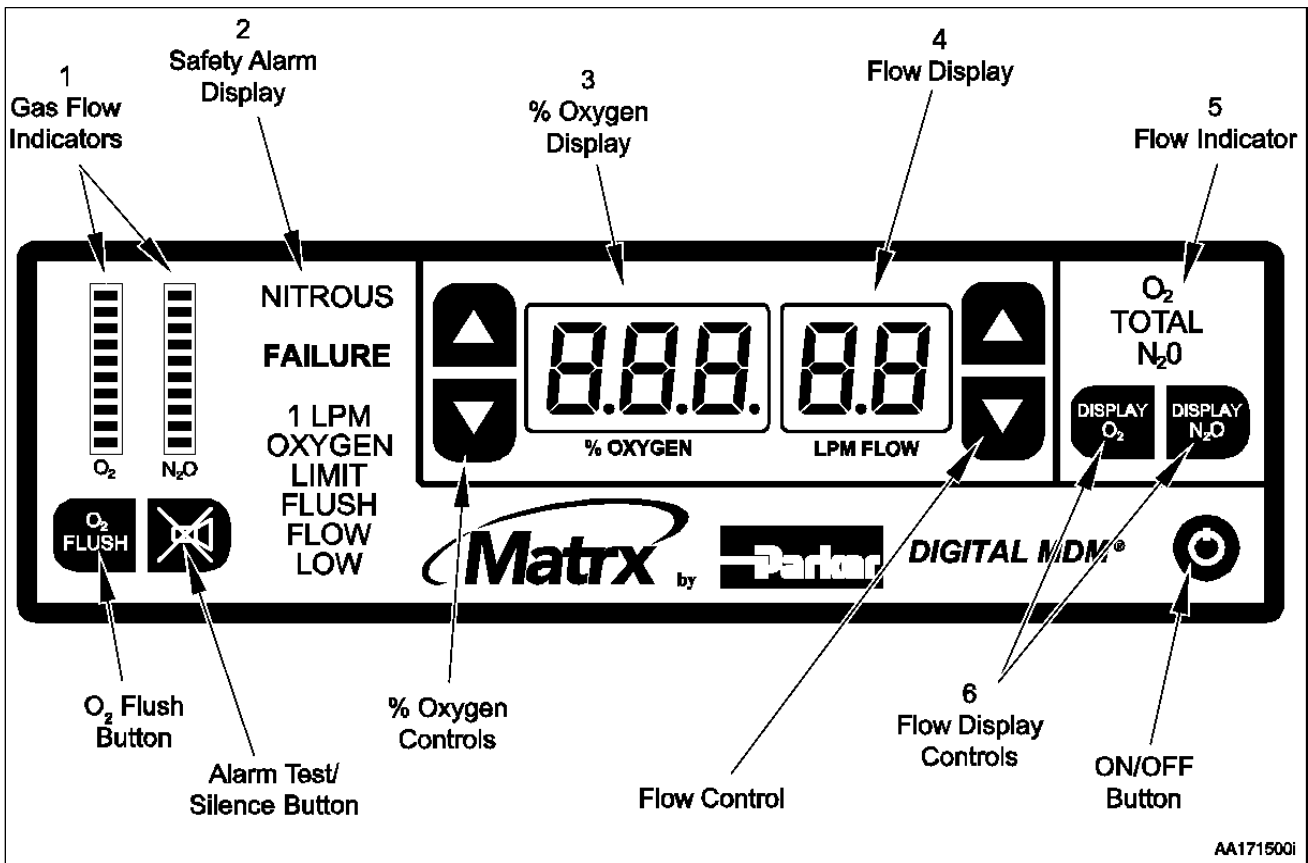

Figure 1: Digital MDM Mixer Front Panel (figure shows all LEDs illuminated)
The Digital MDM Mixer is shown in Figure 1. The device permits the operator to adjust the percent of oxygen through a range of 100% to 30% (and thereby control the ratio of oxygen to nitrous oxide). The operator can also control the total volume of mixed gas up to 9.9 liters per minute.
Displays and Indicators (Figure 1)
There are four alarm conditions on the Digital MDM Mixer. They appear in the safety alarm display (see Figure 1, item 2) only when conditions warrant. Otherwise, they are not visible. The alarm conditions are:
Machine Turn-On Test: Press the ON/OFF key, as shown in Figure 1. After the device goes through an initialization routine, the % OXYGEN and LPM FLOW displays should indicate 100% and 5 LPM.
Alarm Indicator / Lamp Test: Press the alarm test / silence key, as shown in Figure 1, and observe that all the alarm readouts illuminate. The % OXYGEN and LPM FLOW displays should show 8.8.8. and 8.8 respectively. The alarm readouts should illuminate with the numerical displays. 10 bars on each gas should illuminate. The audible alarm should also sound.
Indicated Flow Delivery Test: Set the % OXYGEN display to 100%. Press the [▼] flow key and hold, as shown in Figure 1. The flow rate should decrease to 1.0 LPM. An audible alarm sounds at the lower limit while the key is held. Press the [▲] flow key and hold. The flow rate should increase to 9.9 LPM. An audible alarm will sound at the upper limit as long as the key is held.
Indicated Percentage (%) Delivery Test: Set the LPM FLOW display to 9.9 LPM. Press and hold the [▼] % OXYGEN key. The % OXYGEN display should decrease to 30%. The audible alarm sounds at the lower limit while the key is held. Press and hold the [▲] % OXYGEN key, as shown in Figure 1. The % OXYGEN display should increase to 100%. An audible alarm sounds at the upper limit while the key is held.